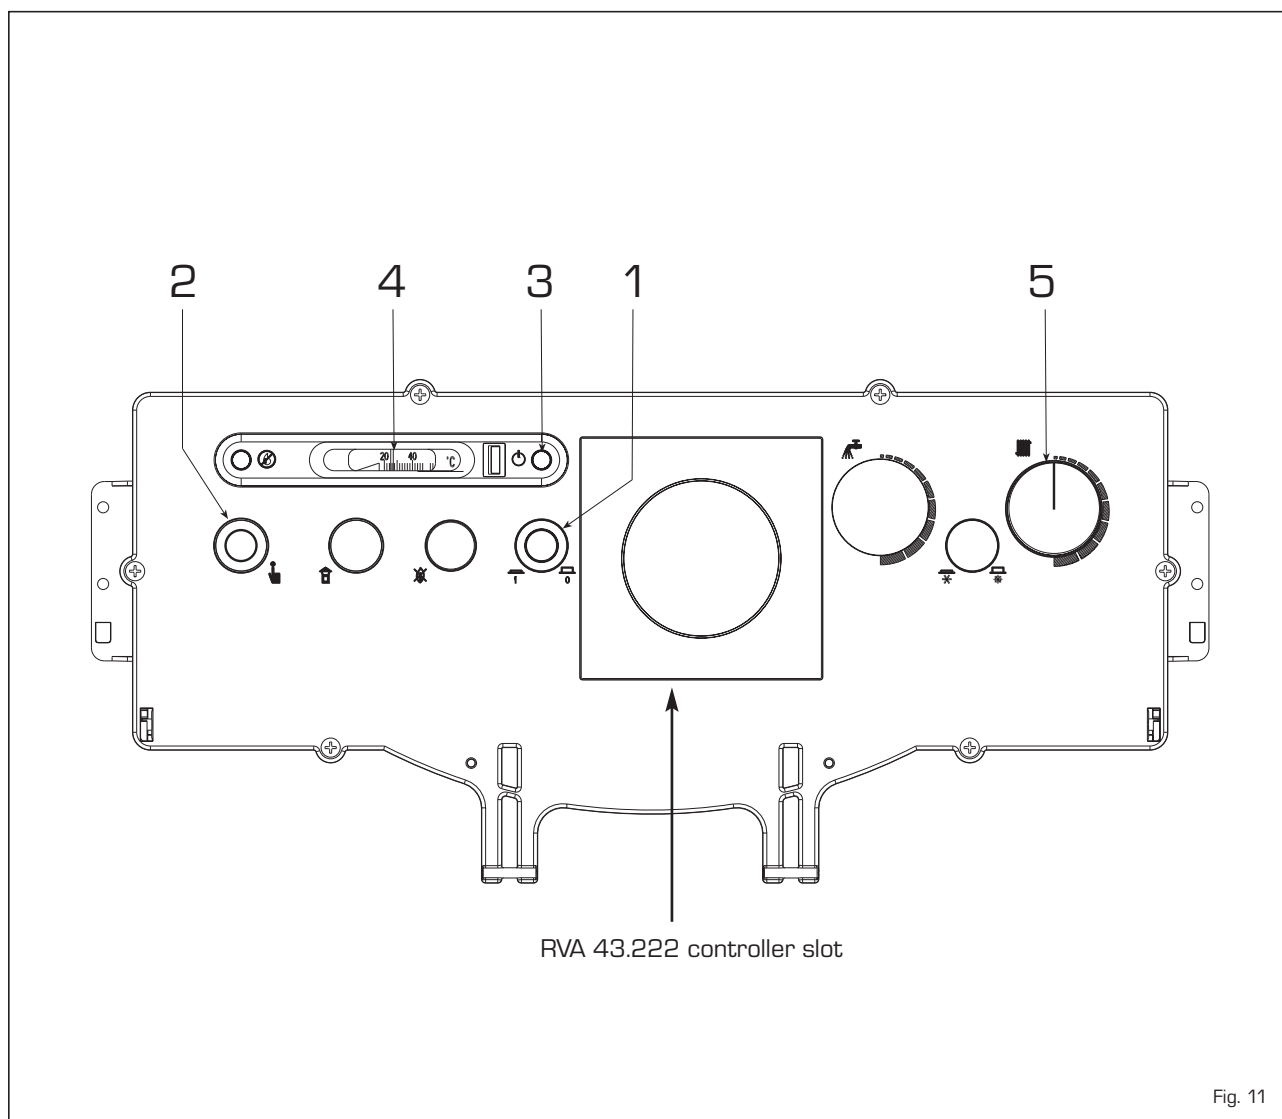

Fig. 11
All functions of the "2R GT OF" boiler may be controlled using the controller; optional code 8096303, which is supplied with an outdoor temperature probe (SE) and a boiler immersion probe (SC). The controller is installed in the control panel in place of the relating cover (fig. 11). The controller is to be connected to an additional series of low voltage connectors for connection of the room temperature control unit (the connectors are supplied in a bag inside the control panel). The probe bulb of the external hot water tank, if any, (SS) code 6277110, must be inserted in the hot water tank sheath, while the bulb of the boiler probe (SC) must be inserted in the boiler sheath. When assembling the outdoor temperature probe, follow the instructions provided in the probe package. Refer to fig. 9/a for wiring instructions.
(fig. 11):
The safety stat with automatic reset calibration set at 100°C (2 fig. 11) trips, immediately turning off the burner when the boiler accidentally overheats.
To temporarily turn off the boiler turn off the electricity supply by pressing the main switch [1 fig. 11].